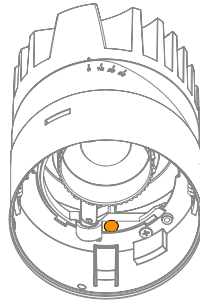

Figure 15
15. Locate the tilt adjustment screw. The screw is located to the tilt hinge, as per Figure 15.